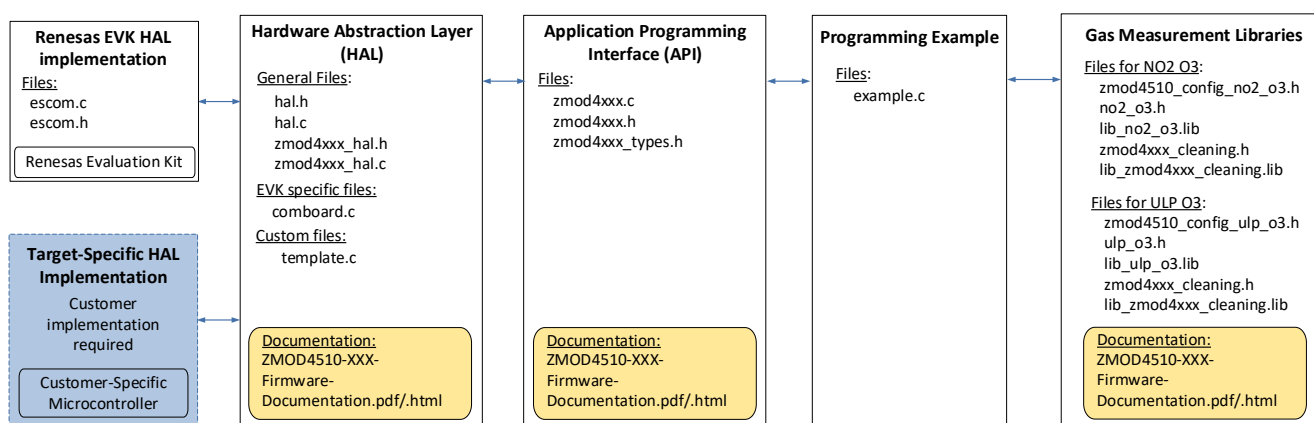

Figure 1. File Overview for ZMOD4510 Firmware
To operate the ZMOD4510 and use its full functionality, the following five code blocks are required (see Figure 1):
1. The “Target Specific I²C and Low-Level Functions” block is the hardware-specific implementation of the I²C interface. This block contains read and write functions to communicate with the ZMOD4510 and a delay function. For the use with Renesas EVKs, there are implementations for ESCOM and HiCom boards provided with the ZMOD4510 firmware packages. Using the user’s own target hardware requires implementing the user’s target-specific I²C and low-level functions (this is highlighted in light blue in Figure 1).
To set up a firmware for an Arduino target, Renesas provides the above-mentioned EVK example also as an Arduino example. This example is a high-level Arduino library and has a similar structure as shown in Figure 1 but with a HAL dedicated for Arduino, an Arduino-compatible structure, and Arduino-specific files. An Arduino IDE with version 2.0.0 or higher is needed.
To set up firmware for a Raspberry Pi based target, Renesas provides the above-mentioned EVK examples also as a Raspberry Pi examples. These examples have a similar structure as shown in Figure 1 but with a HAL dedicated for Raspberry Pi and a Makefile to easily compile the code. The example is based on the pigpio library and Raspberry Pi OS (previously called Raspbian).